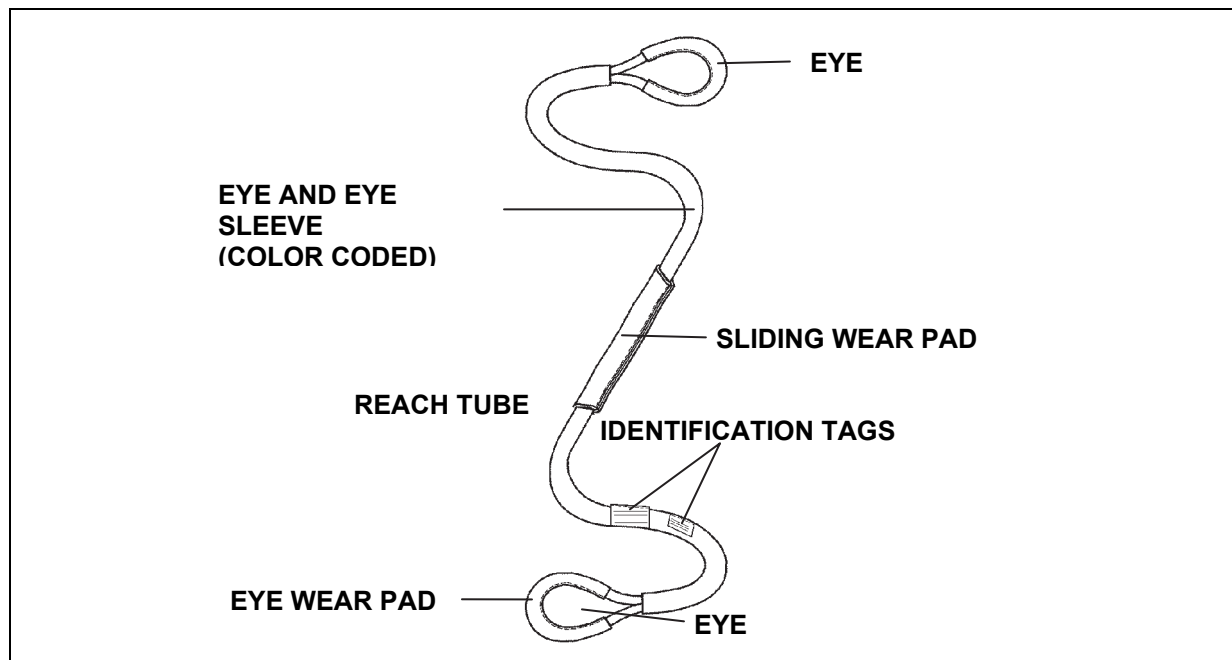

Figure 8-30. Polyester Roundslings
- Polyester Roundslings.** Polyester roundslings are used as the primary vertical pendant (figure 8-30). Roundslings can be attached to the load using the three hitches described in chapter 6. The lifting capacity of polyester roundslings vary with the size of the sling and the type of hitch used to attach the load. Each sling has two identification tags permanently sewn to the eye and eye sleeve identifying the size and capacity, as well as other important information necessary for the safe use of roundslings. These slings are also color coded to designate the capacity of the sling. Refer to table 8-1 for sling lengths and lift capacities.